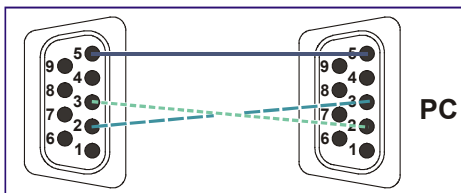

Figure 4: Crossed Cable RS-232 Connection
**Method A (Figure 4)**—Connect the RS-232 9-pin D-sub port on the unit via a crossed cable (only pin 2 to pin 3, pin 3 to pin 2, and pin 5 to pin 5 need be connected) to the RS-232 9-pin D-sub port on the PC.